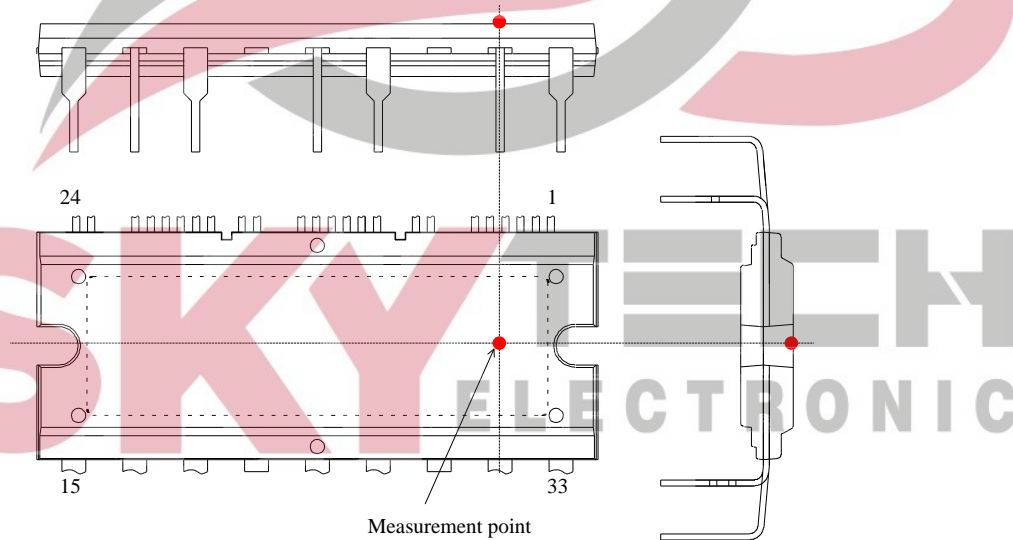

Figure 3-1. Case temperature measurement point
(1) Refers to a case temperature at the measurement point described in Figure 3-1, below.